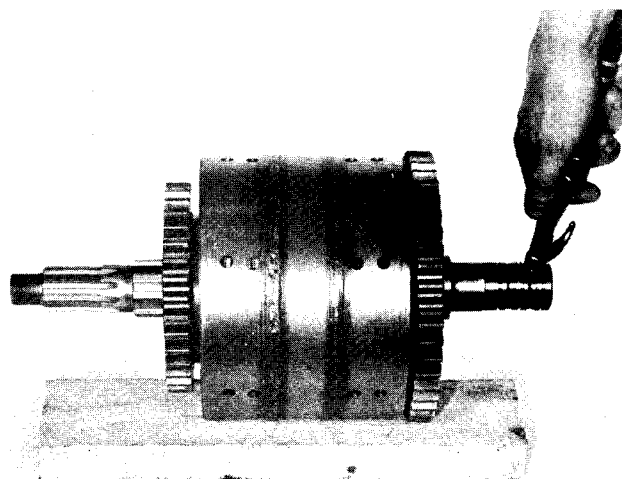

Figure 41
8. Air test (30 psi min) both clutches utilizing the oil inlet holes. Actuation of the clutches may be observed at the lube outlet holes in the clutch housing. Engage each clutch 4 or 5 times to assure proper actuation and release of clutches (Figure 41).